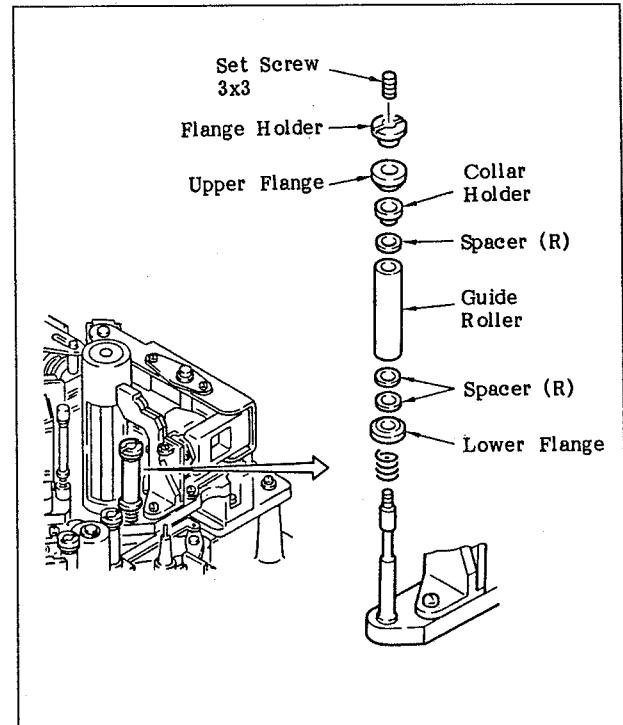

Fig. 6-123 Replacement of the T6 Guide Roller
(Figure 6-123)
3. If it is not satisfied, adjust it by changing the number of spacers (R) (Sony Part No. 3-715-809-11), shown in Figure 6-123.
- Note: At least one spacer (R) must be inserted between the lower flange and the guide roller.**